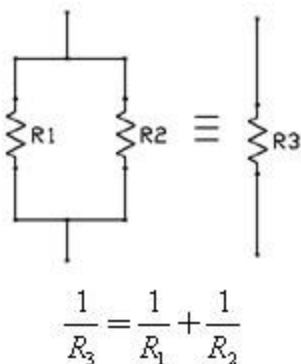

figure 4.A
- In this example circuit (**figure 4.A**),  $R_1$  and  $R_2$  are connected in parallel, a single resistor  $R_3$  can provide the exact same function of the two resistors  $R_1$  and  $R_2$ , according to the law **figure 4.A**.